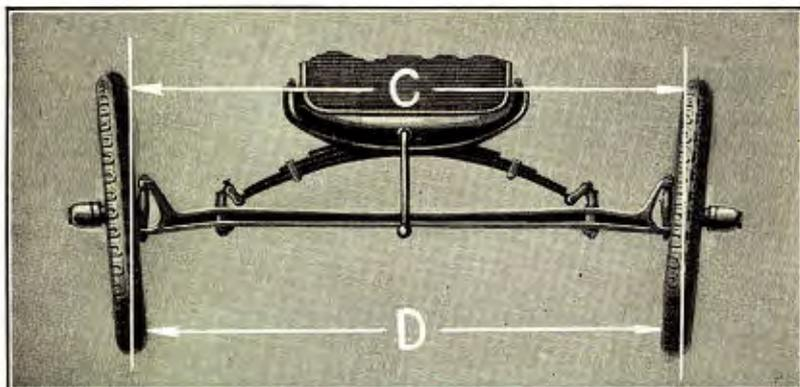

Fig. 122
- 153 The camber is checked by drawing a vertical line through center of hubs to the top and bottom of the wheel felloes (See "C" and "D" Fig. 122) and measuring the distance between the wheel felloes at these points. The difference between the measurements at "C" and "D" should be approximately 3"; in other words there should be a $1\frac{1}{2}$ " pitch on each front wheel.